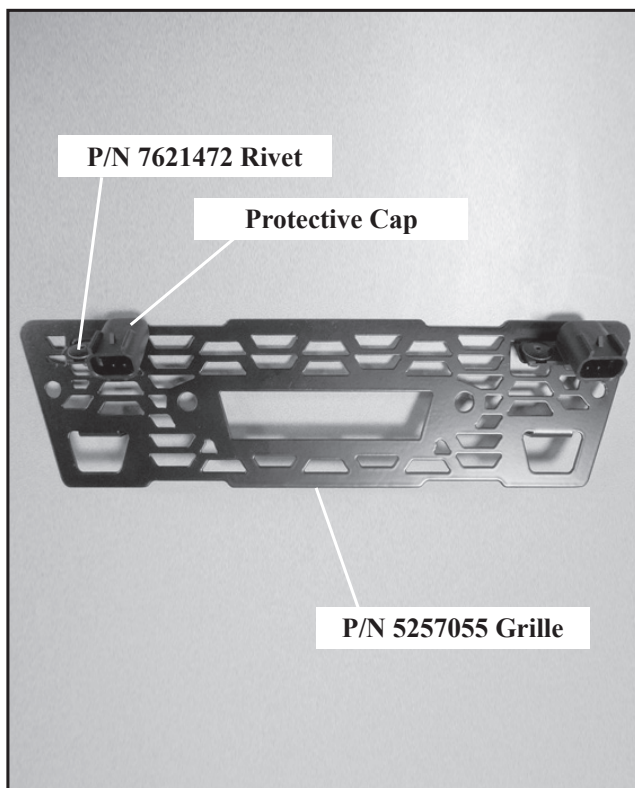

Figure 1
4. Remove the protective cap from the P/N 2412369 control harness (#3) and secure it to the right hand side of the P/N 5257055 grille with the P/N 7621472 rivet (#5) as shown in *figure 1*. The P/N 5257055 grille can be found in the P/N 2879106 mount kit.